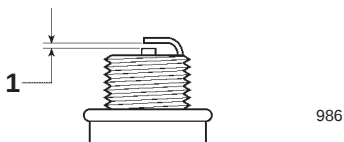

Figure 15
4. Set the gap on the new plug to 0.020 in. (0.50 mm) (Fig. 15).